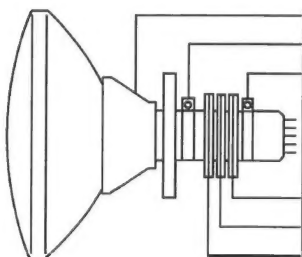

Fig. 3-1
1. Tighten the screw for the magnet. Refer to the adjusted CRT for the position. (Refer to Fig. 3-1)